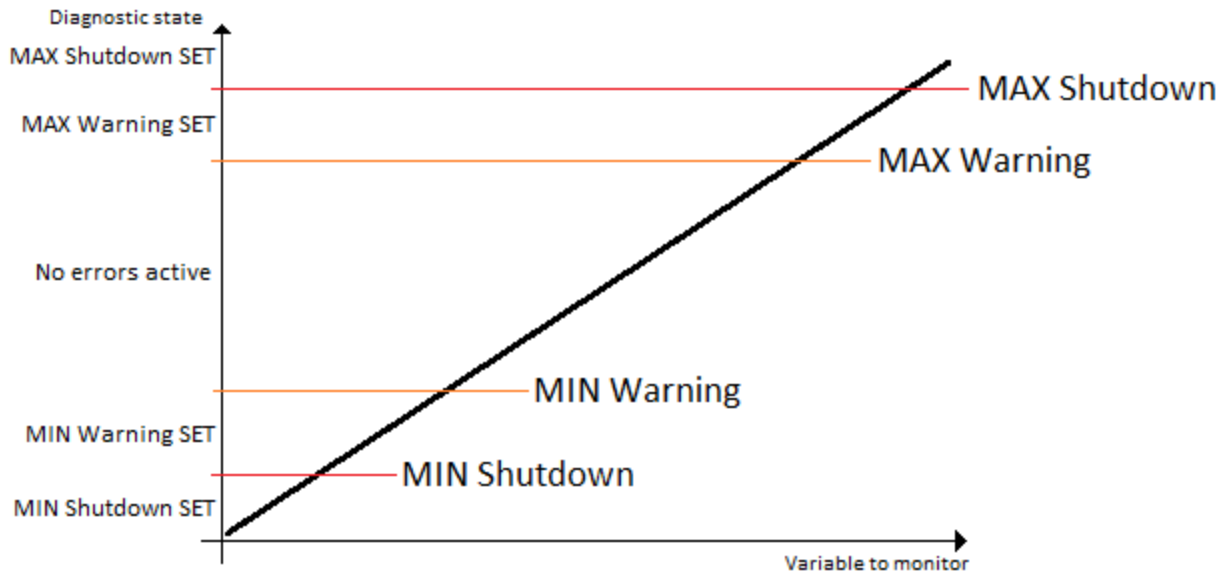

Figure 2 – Double Minimum and Maximum Error Thresholds
The Conditional Block compares up to four different input sources with different logical or relational operators. The result of each block can therefore only be true (1) or false (0). Figure 2 demonstrates the connections between all parameters.